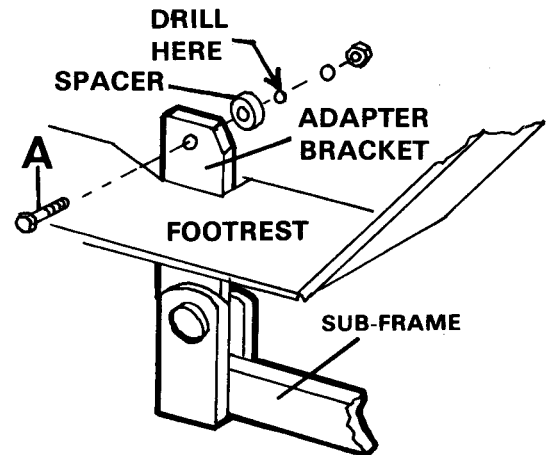

FIG. 4
4. Refer to FIG. 4.
Slightly raise or lower Sub-Frame until Drive Shaft, tractor PTO and Pump are lined up. (Drive Shaft will turn freely by hand when properly aligned.) Block Sub-Frame at this height. Position Adapter Brackets to a vertical position, center punch tractor frame in center of Adapter Bracket holes and drill a 17/32" dia. hole through tractor frame on both sides. (refer back to Fig. 4) Place spacer between Adapter Bracket and tractor frame and fasten all into place with a 1/2 x 1 1/4" Bolt, Lockwasher and Nut (A). Go back and tighten all Bolts.